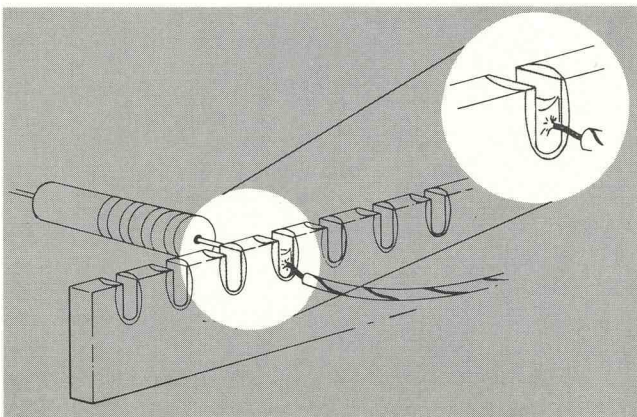

Fig. 4-3. A slight fillet of solder is formed around the wire when heat is applied correctly.
6. Do not attempt to fill the notch on the strip with solder; instead, apply sufficient solder to cover the wire adequately and to form a slight fillet on the wire, as shown in Fig. 4-3.